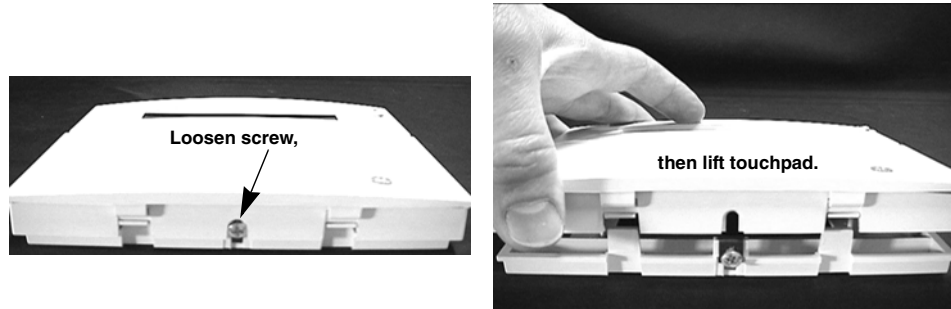

Figure 1. Separating the Touchpad from the Mounting Plate
1. Separate the mounting plate from the touchpad by first loosening the screw, then lift the touchpad away from the mounting plate (see Figure 1).